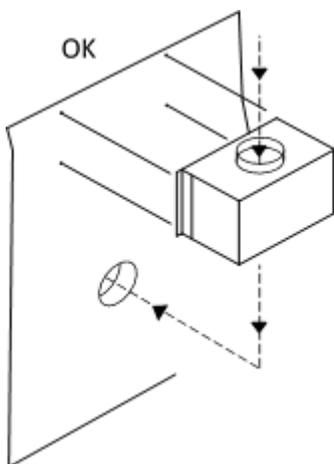

Fig 50
2. Remove top off the motor to install inside the cupboard with the motor place din the plinth (Fig 50).